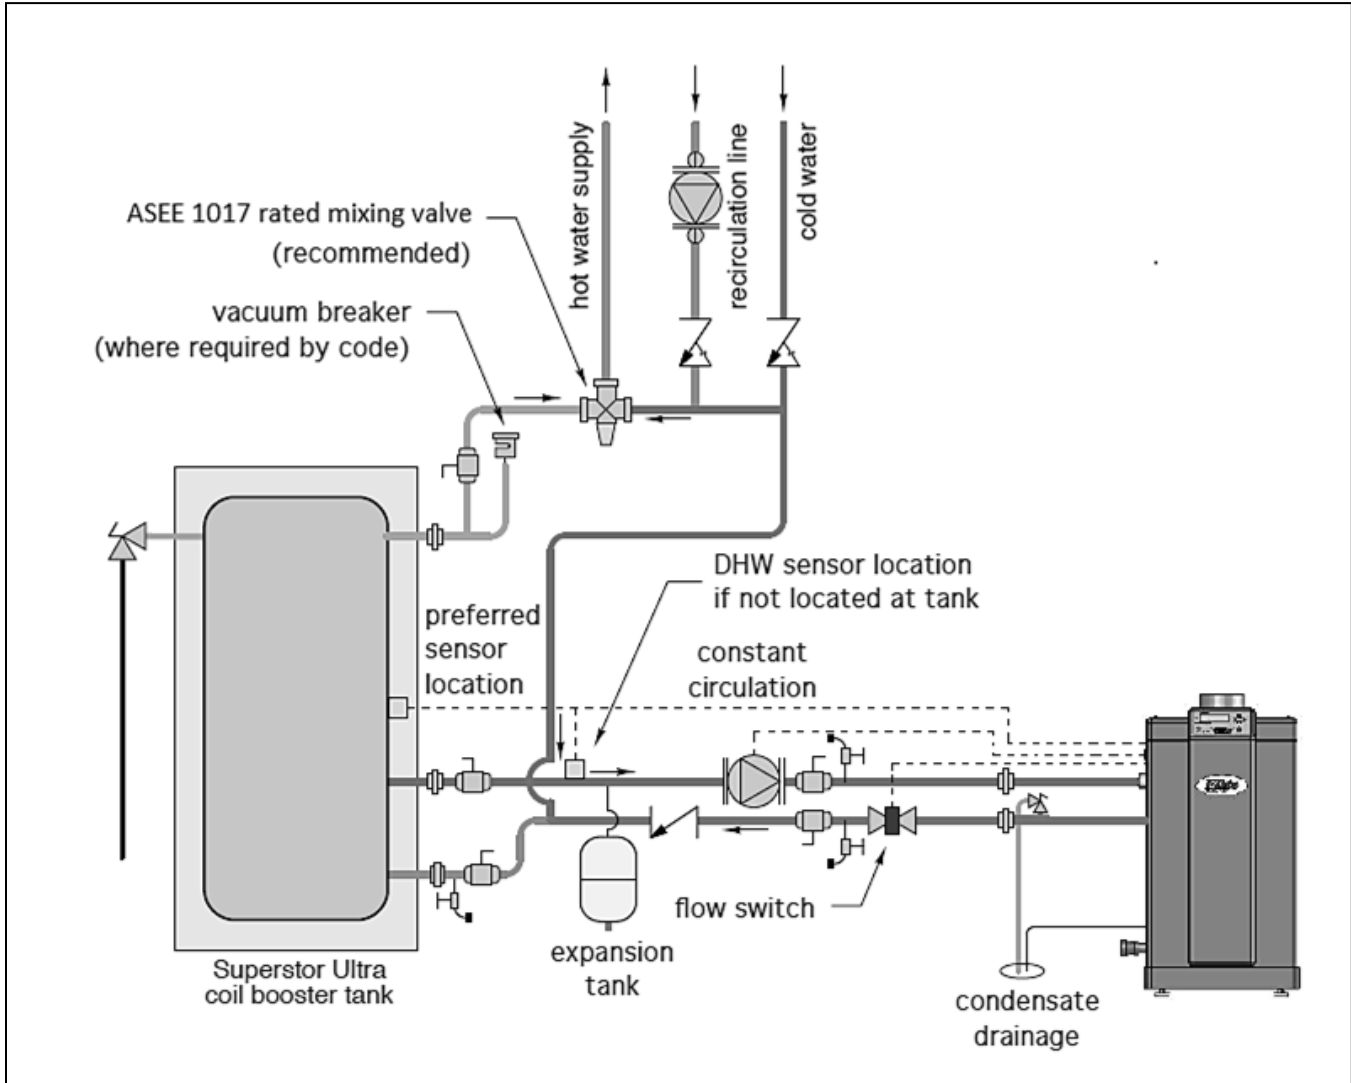

Figure 7
5. When using multiple heaters, see Tables 6, 7, and Figure 7 for pipe sizing.